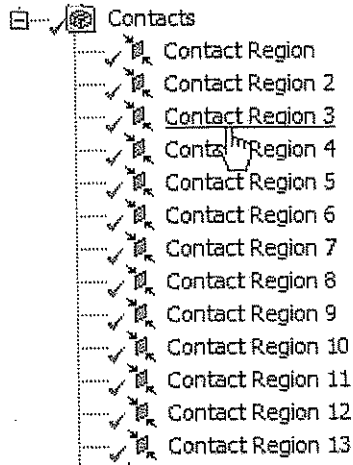

Figure 8-15 Partial view of the Contacts node under the Connections node
3. Expand the **Contacts** node under the **Connections** node to display the list of contacts available for the assembly, as shown in Figure 8-15.